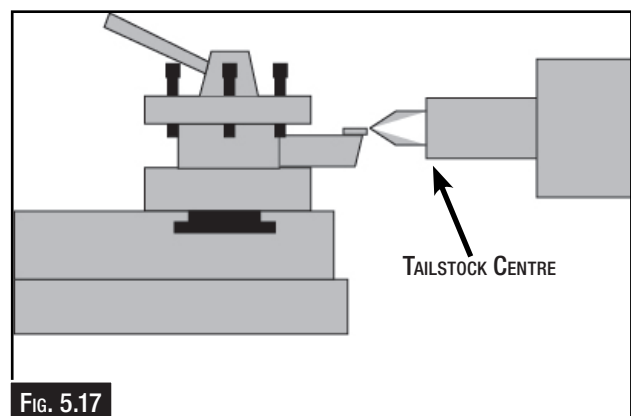

Fig. 5.17
2. Align the tip of the cutting tool with a tail stock center, as described in the following procedure.(Fig. 5.17)